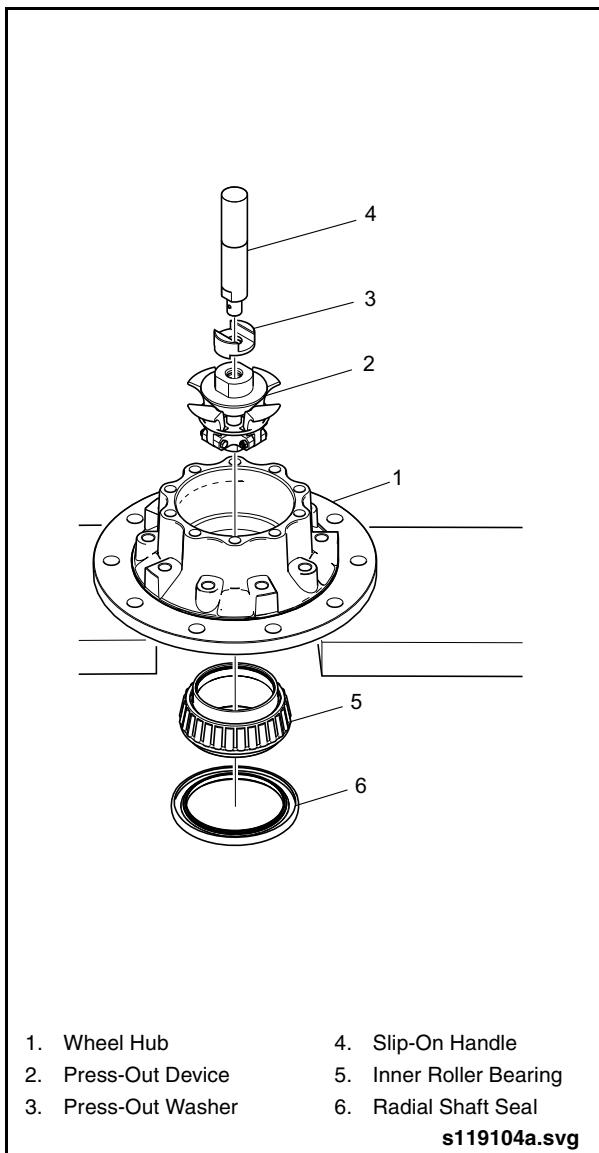

Fig. 2-21: Removing Inner Tapered Roller Bearing
1. Place the wheel hub on its inner bearing support with wood underneath. See "Fig. 2-21: Removing Inner Tapered Roller Bearing" on page 24.